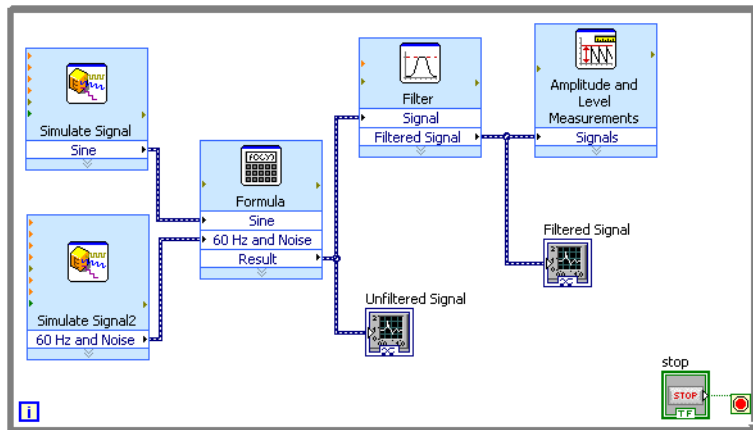

Figure 3-3. Block Diagram of the Analysis VI
11. Select **File»Save**. The block diagram of the Analysis VI should appear similar to Figure 3-3.